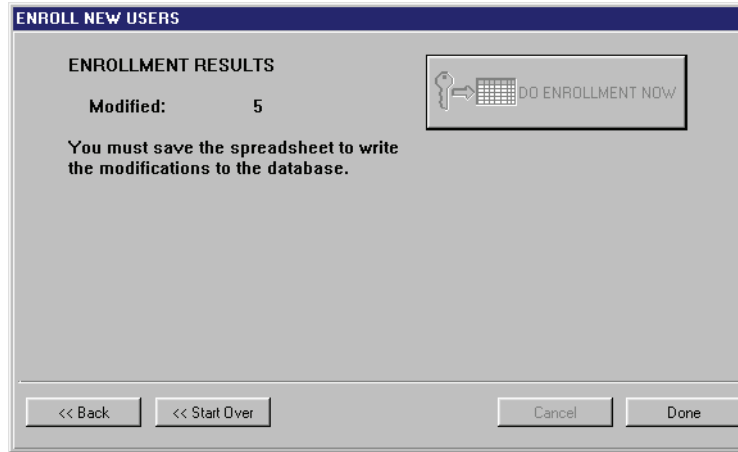

Figure 4-7: Enrollment Results Window
13. Once you have verified all the information is correct on the confirmation display, click on the  button. The cards are enrolled and the Enroll New Users window displays the enrollment results (see Figure 4-7 on page 7 of this section).